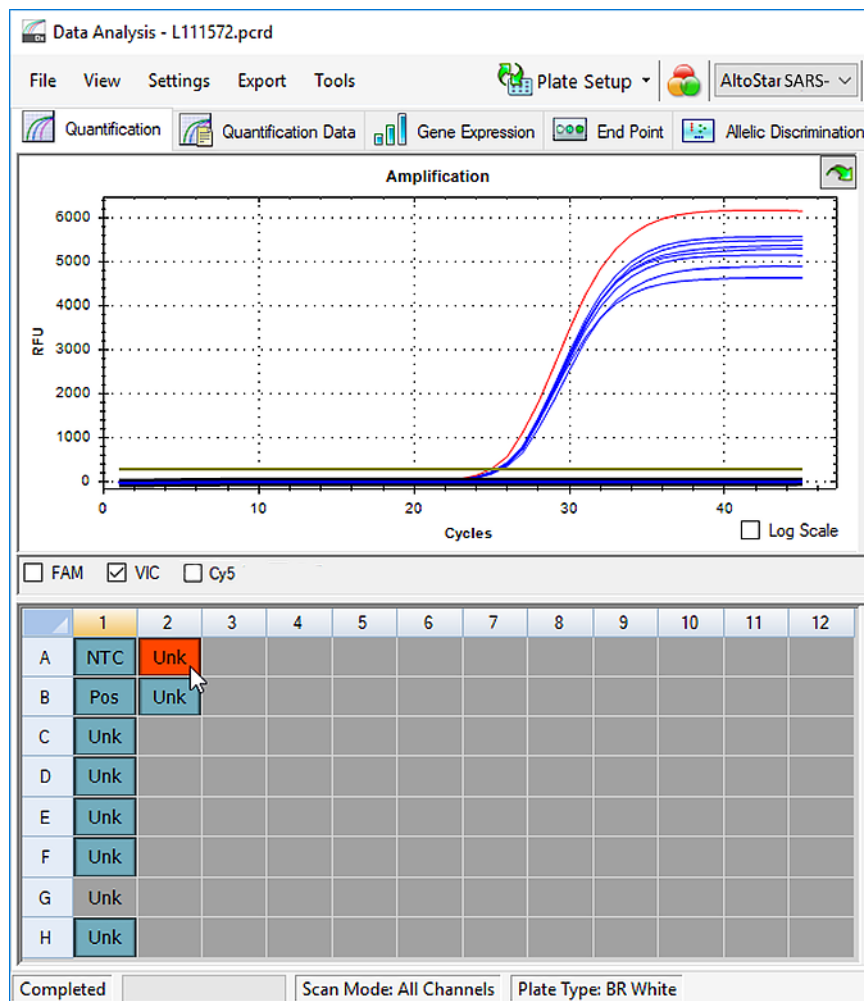

Figure 11: Data Analysis window: invalid well
- Click each well containing invalid data according to chapters 7.6.8.2 Validity of a diagnostic PCR run to 7.6.8.3 Validity of results for a sample with the right mouse button and select **Well...** → **Exclude from Analysis** (see figures 11 and 12).